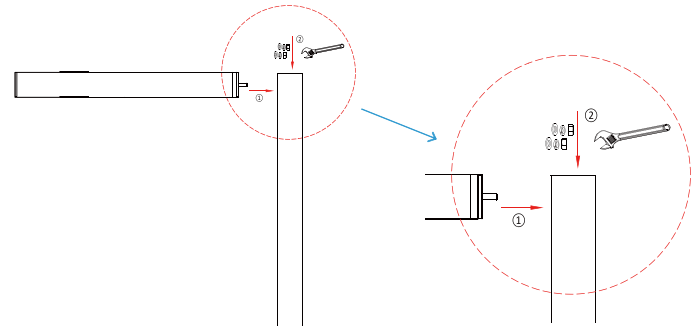

Fig. 6
3. Insert the lamp body into the light pole (self-purchased) according to the hole position, then put the spring washer and flat washer into the screw, and tighten the 2*M10 nut with a wrench from the top of the light pole, see Fig. 6.